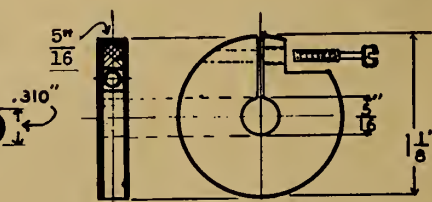
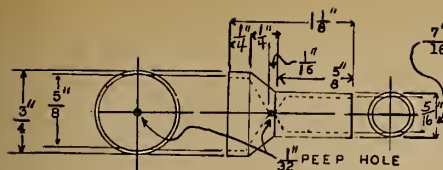
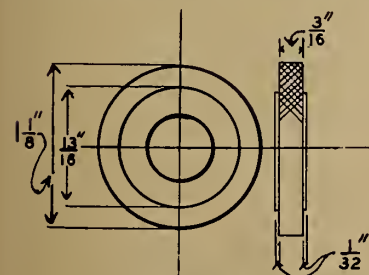
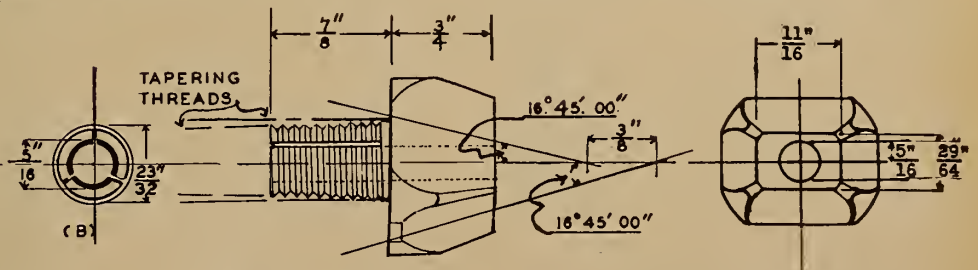

FIG. 3. Split clamping ring
FIGURE 4
FIGURE 8
FIGURE 9
The plug is shown in Fig. 9, and the round brass nut which is threaded to fit the tapered and slit threads of the plug is shown in Fig. 8. The aperture plug is fastened to the sight tube by means of the brass nut, which squeezes the plug fast by action of the tapered threads. So far the tube is held fast on only one end. Fig. 1 shows a conical spiral tension spring. This spring is slipped over the tubing and flush with the aluminum cone, and the split clamping ring from Fig. 3 is slipped into place and clamped by means of the screw shown. Bantau says: "The spring should be of about 15 or 18 coils and about No. 18 steel or music wire, and it should not exert a pressure of more than 4 pounds over the entire surface. Each end should be ground flat, so as to fit even all around."
The eye-piece is made of brass, painted inside with lampblack, and made to slip snugly over the end of the Shelby or sight tube. It is shown in detail in Fig. 4. It is interesting to note that it was lapped to fit on the barrel tube in preference to the use of reamers.
Round brass nut knurled and threaded to fit threads in Fig. 9
8. The nut used to clamp the split threaded part of Fig. 9 on the barrel tube is to be made of brass $1\frac{1}{8}$ inch in diameter and threaded with tapered threads; the taper should be about $\frac{1}{16}$ inch per inch. The threads should be from 16 to 18 to the inch.
10. Careful study should be made of the aperture end elevation before this part is turned out (Figs. 9, 9B and 10). The $\frac{5}{16}$ " hole must have a tolerance minus 0.002 inch, plus 0.000 inch. When Figs. 4, 6, and 9 are completed, they should be lapped with grinding compound on the tube in preference to the use of reamers to secure a snug fit—allowing a clearance of 0.002 inch to prevent any looseness on the tube.
Aperture end elevation of Fig. 9